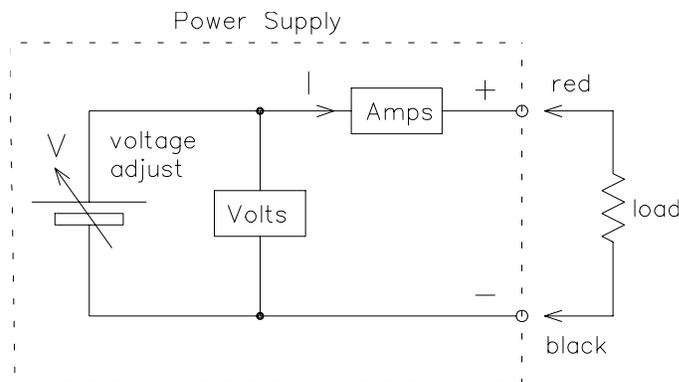

Figure 3.1: Experimental setup
To monitor the amount of current flowing in this closed circuit at a set voltage V , the power supply includes a current meter (ammeter) connected in *series* between the voltage source and the resistive load. Refer to Figure 3.1 for the schematic diagram for the circuit.
- Connect the circuit as shown in Figure 3.1 with resistor R_1 as the load resistor. Resistors R_1 and R_2 are similar, with a nominal resistance of $40\ \Omega$ and an error, or tolerance, of $\pm 5\%$.
- Repeat the above steps by connecting the circuit shown in Figure 3.1 using the resistor R_2 as the load resistance. Enter your findings in Table 3.2.